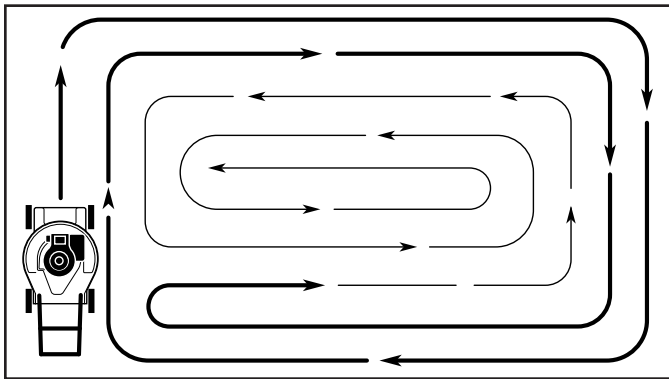

FIG. 13
- For side discharge operation, cut in a counterclockwise direction, starting at the outside of the area to be cut, in order to spread grass clippings more evenly and to put less load on the engine. To keep clippings off of walkways, flower beds, etc., make the first cuts in a clockwise direction (See Fig. 13).